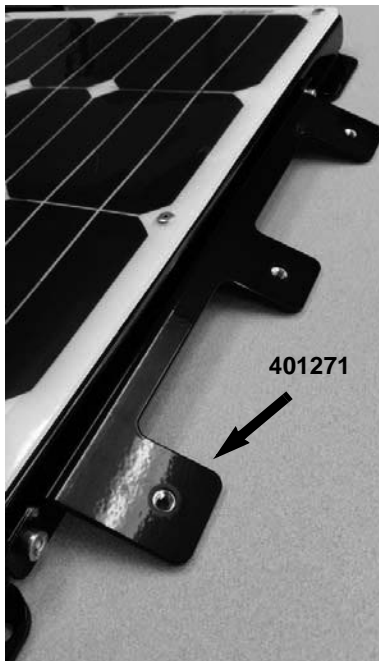

Figure 1
3. Attach adapter bracket (401271) to solar panel assembly as shown using supplied hardware (**Figure 1**).